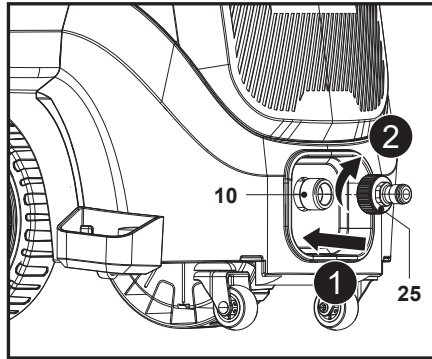

Fig. 9
Align and screw the water inlet adaptor (25) onto the water inlet connector (10) in front of the machine (Fig. 9, steps 1, 2).